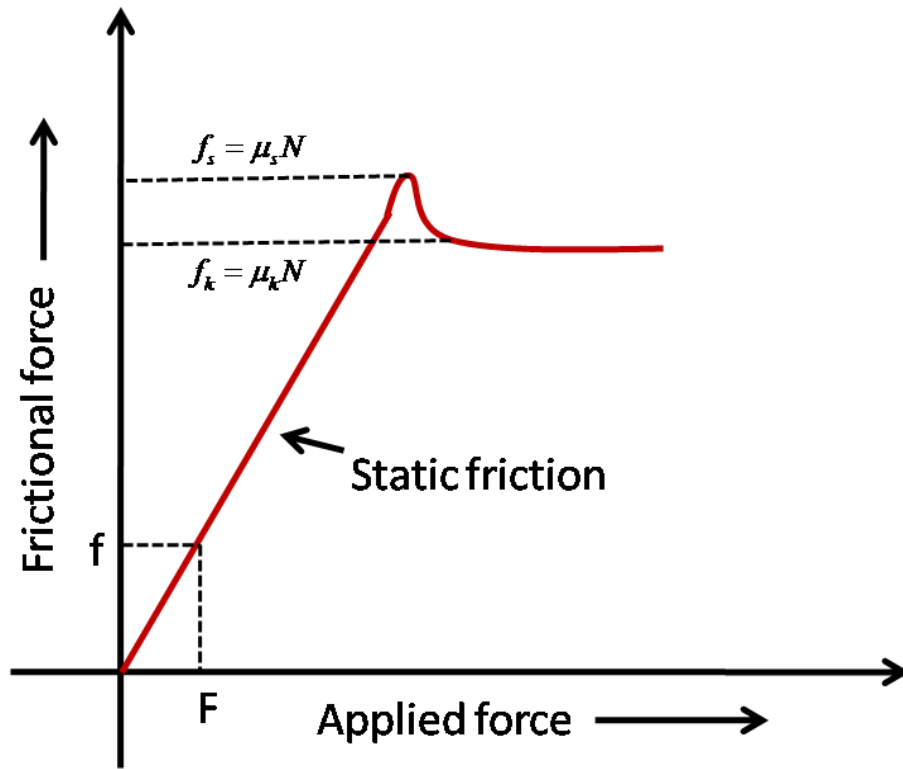

Figure 4: A sample force-time graph
15. When you get your recorded data for the force-time graph you must plot the graph by yourself and it should look exactly like figure 4.